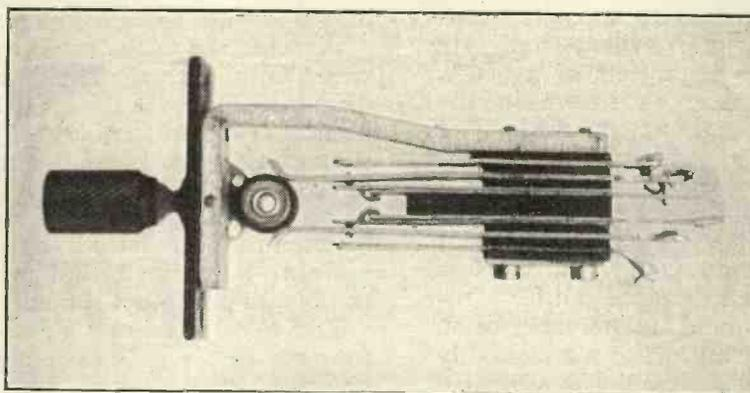

Fig. 1.—Dewar switch.
**I**N spite of the widespread use of ex-Government Dewar switches for wireless work amongst experimenters in this country, very little seems to have been written on the subject of actually constructing these switches. At first sight it might appear a rather difficult matter to make a satisfactory job of such a complicated-looking article, but in reality, if the commercial design is slightly modified, it will be found very easy to counterfeit it. Fig. 1 shows a photograph of a standard pattern of Dewar switch, having four contacts on each side. Such a switch has very many uses in experimental wireless gear, and there are few out of the thousands of experimenters in this country who have not at least one such switch in their apparatus.
Now that the supply of these switches is running rather low, the experimenter finds that their new price is rather prohibitive, as such a switch as shown in Fig. 1 will probably cost from 15s. to 17s. 6d. This is more than he wants to pay, of course, and for this reason the following short article describing how Dewar switches may easily be made, with very few tools, will be welcome.